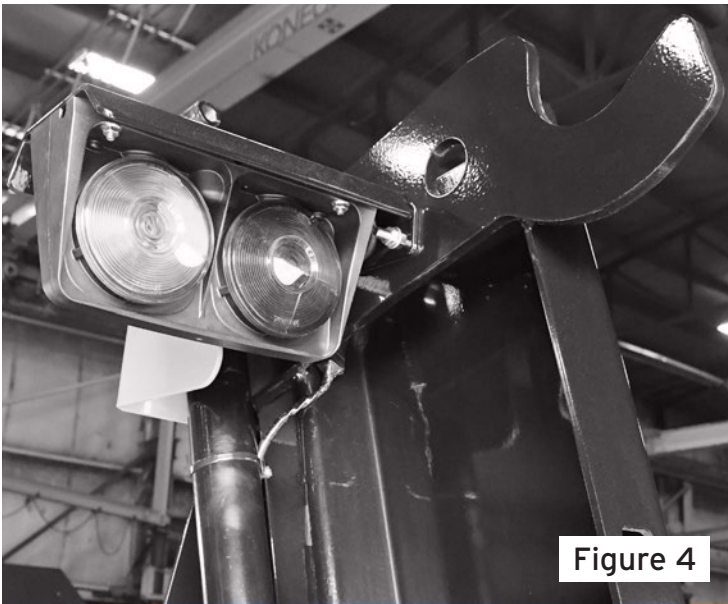

Figure 4
4. Yellow lights should be on the outside. Red lights should be visible from the rear. (Figure 4).